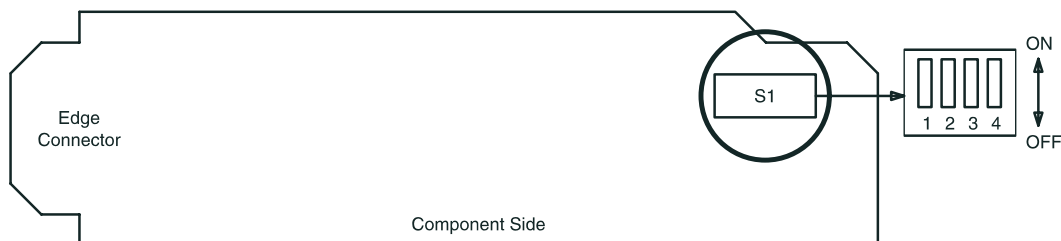

Figure 8. BBF8 HDSL Control Switch
50. Set **BBF8 HDSL** option switches per Table N and Figure 8.